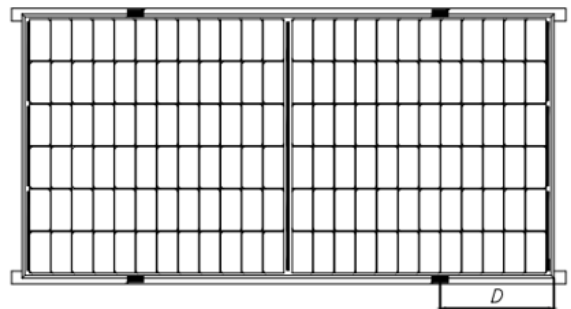

Fig.3 Rails overlapping the long-side frame
When double-sided PV modules are installed, each PV module must be fixed with at least 4 presses, as shown in Figures 3 、 4、 5、 6.
- ⑧ For the mounting shown in Figure 3, the overlap between the C surface of the assembly and the rail should be ≥ 25 mm. Astronergy's limited warranty will be void if improper clamps or improper installation is used.